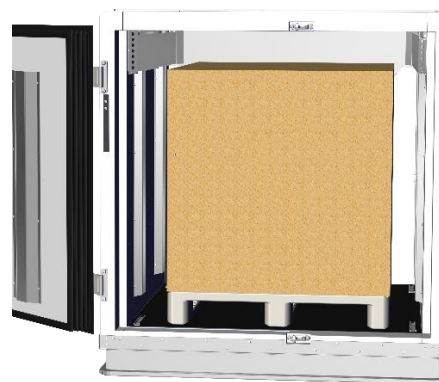

Figure 16 - US pallet size load placed inside the container - front view
3. Place the load in the container (**Figure 16**):